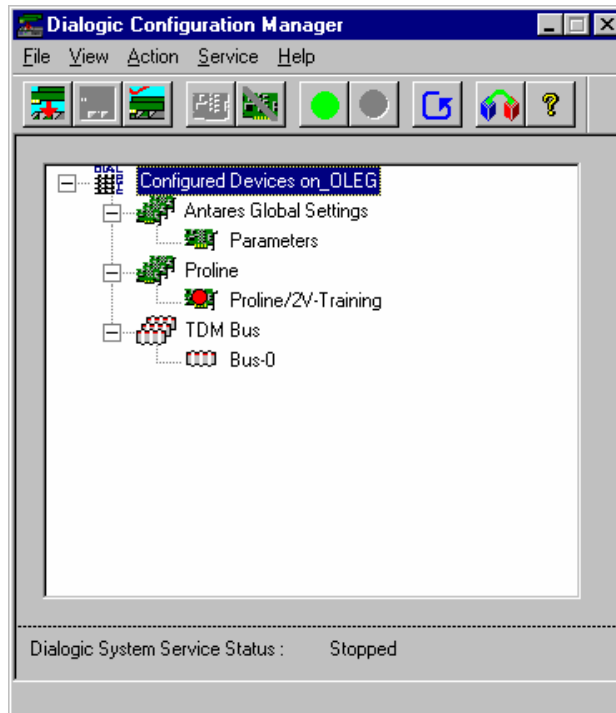

Figure B.17. Completed Card Configuration
- Figure B.17** shows how a properly configured Proline/2V card looks. Now you are ready to start the service.